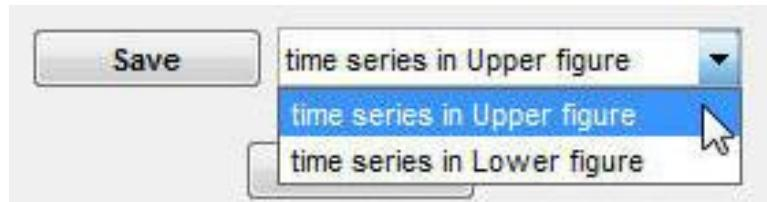

Figure 5-29. Menu for selecting a time series or SD to be saved (enlarged view of the GUI component that is highlighted in Figure 5-28).
Step 1: Click the pull-down menu to select a time series to be saved, as shown in Figure 5-29: